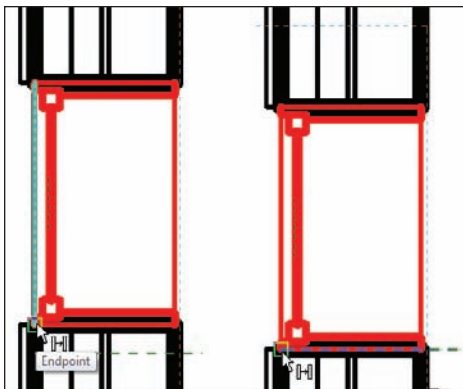

FIGURE 4.20 Moving the window into position
7. Move the window from the bottom, outside corner down to the reference plane, as shown in Figure 4.20.